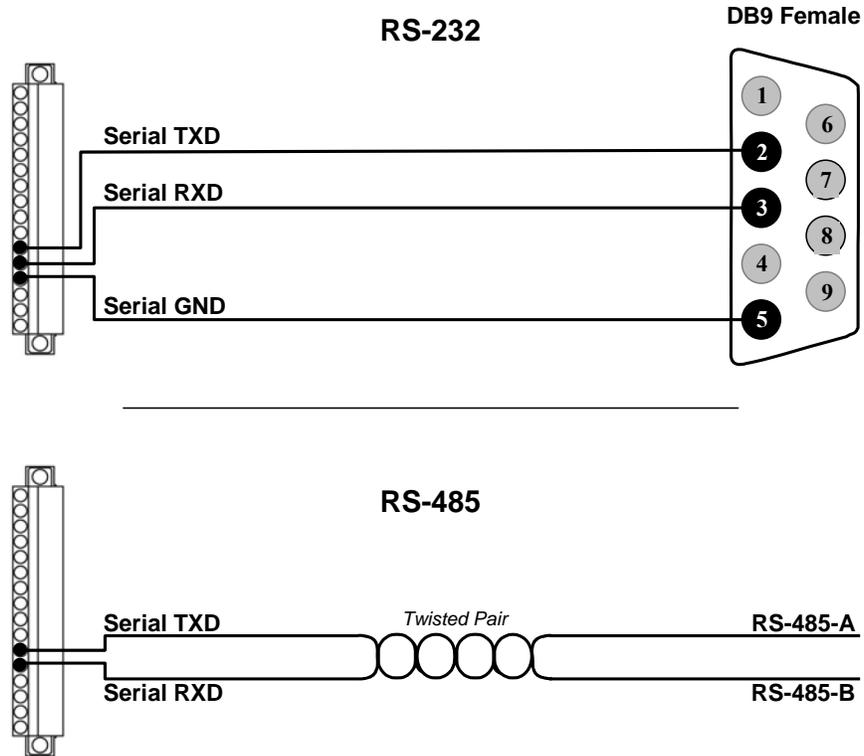

Figure 3-12 Typical RS-232 and RS-485 Connections
The following three pins are provided on the I/O connector for serial communications (see Figure 3-12).
8. A cable may be included with you instrument. If not, Figure 3-12 below illustrates how to construct wiring for both RS-232 and RS-485 connections.
When either the **HI** or the **HI-HI** alarms are active the **ALARM ACTIVE** status LED on the front panel (see Figure 3-1) will blink. In addition when the **HI** alarm is active alarm trigger LED D7 (on the main PCA, see Figure 3-12) will glow and when the **HI-HI** alarm is active alarm trigger LED D8 will glow.